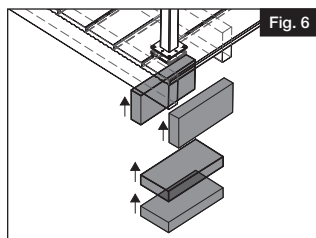

Fig. 6
- b. Beneath all post locations install at least two 2"x8" blocks using at least three #10x3½" deck screws penetrating through the joists at least 1½" into the blocks (sold separately) (Fig. 6 & 7).